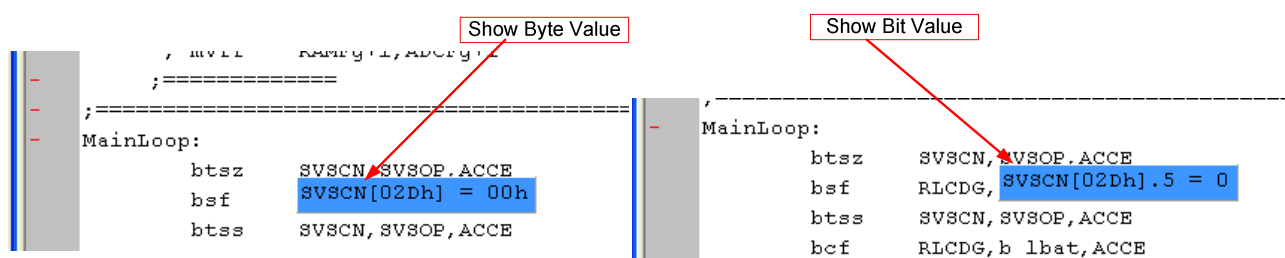

Figure 63
- (1) Click the network by mouse, CPVCS can select to the specified network.
- (2) Click the network switch by mouse, CPVCS can select the specified network.
- (3) Click the mouse, a menu as Figure 63 will show up. Users can select the specified switch network.